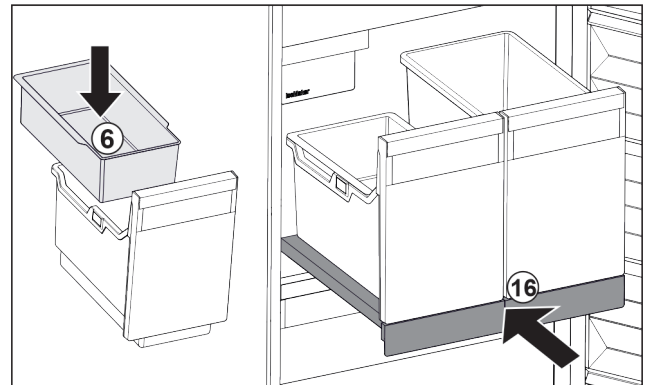

Fig. 30
- ▶ Insert hang-on tray Fig. 30 (6) for ice cubes.
- ▶ Slide in the pull-out board with container (IceTower). Fig. 30 (16)